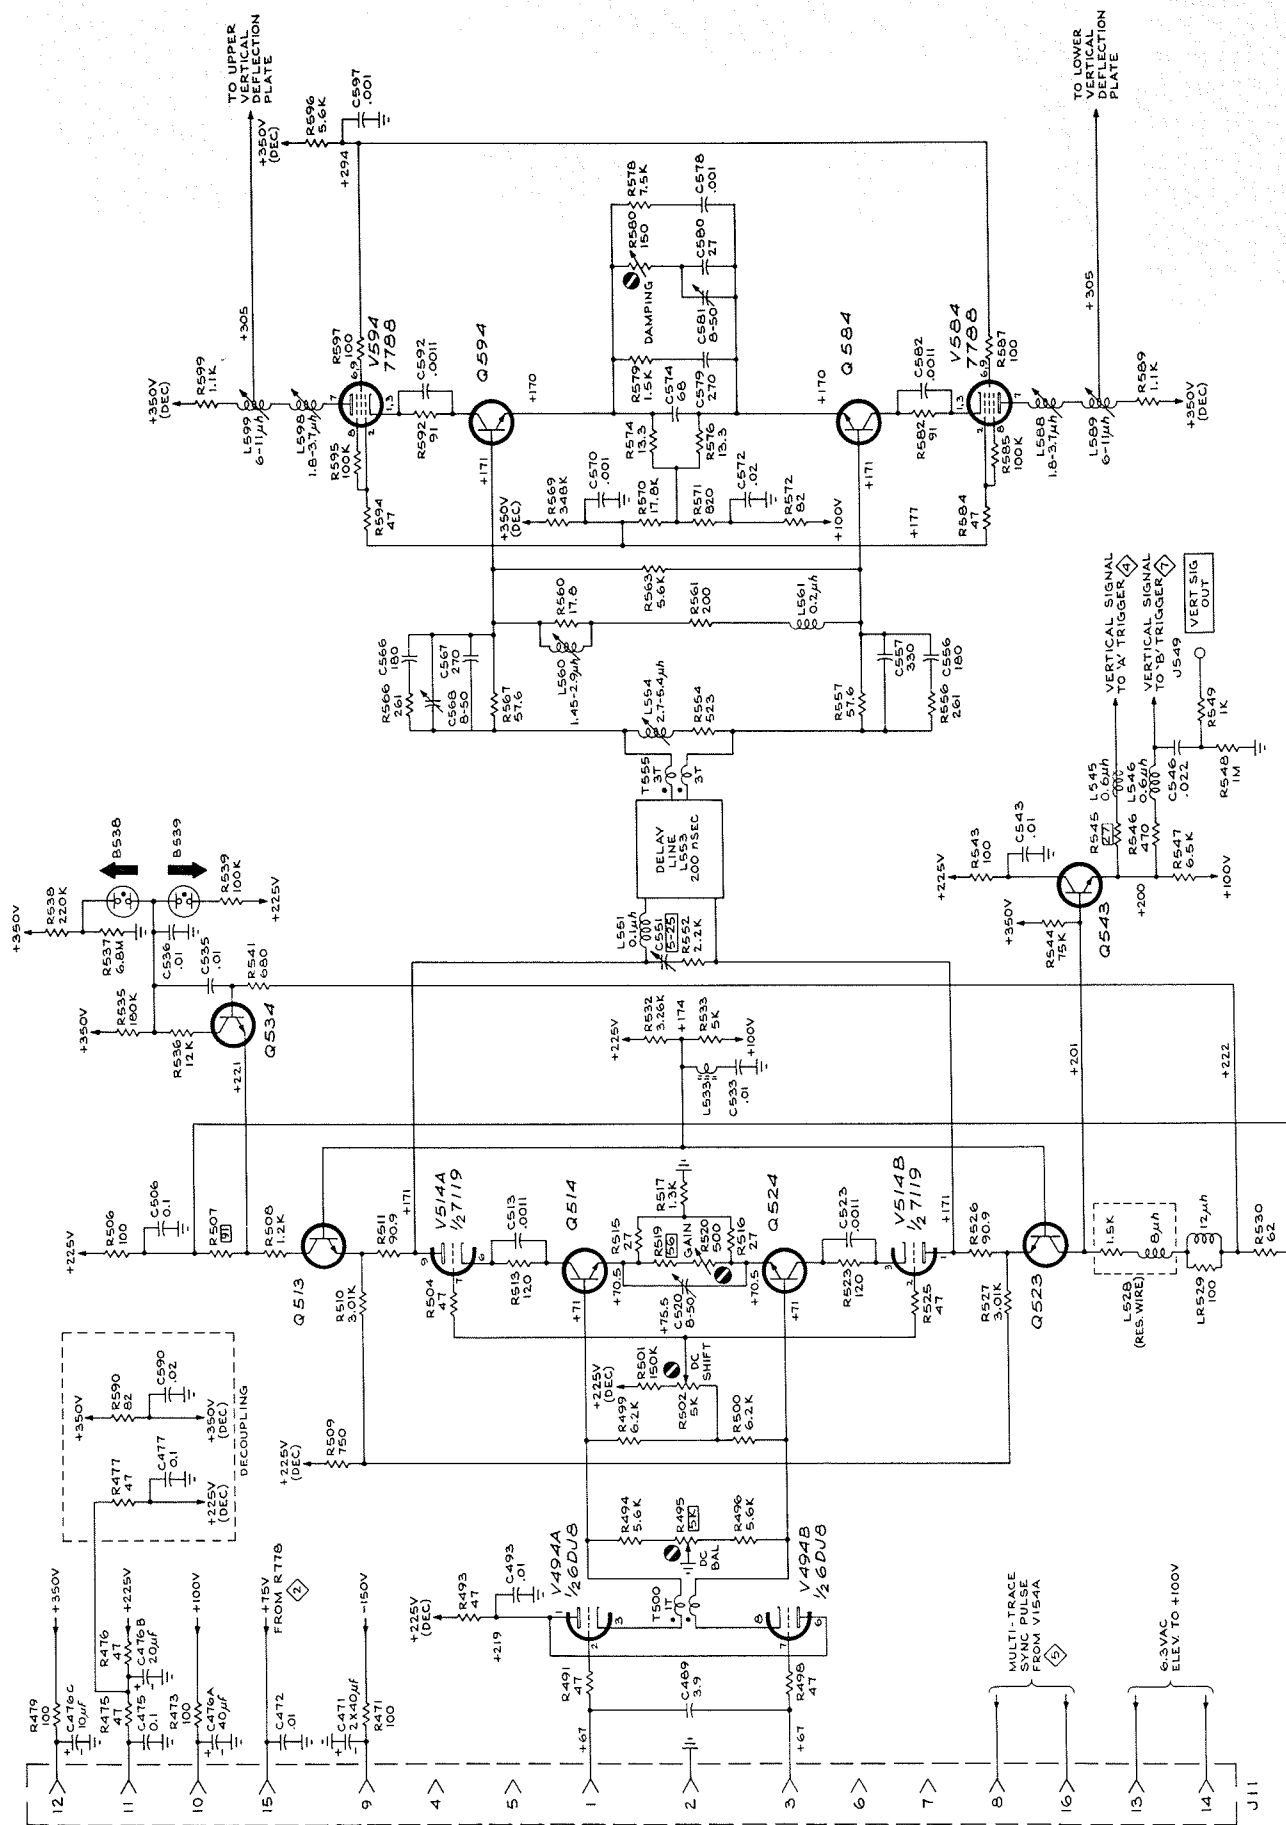

Figure 17.
A quiescent DC voltage of +67 volts is the nominal voltage at the output of the plug-in amplifiers used in the Type 545B oscilloscope. This voltage appears at terminals 1 and 3 of J11 in Figure 17, and thus, at the grids of V494A and V494B, a 6DJ8 dual triode. The input cathode follower (V494 A & B) has a bias of about 4 volts; therefore, both cathodes will be at +71 volts. The base voltage of Q514 and Q524 is then fixed at 71 volts. This sets the emitter voltages of Q514 and Q524 at one junction drop more negative (they are both NPN transistors) than the base. Therefore, the voltage at the emitter of Q514 and Q524 is 70.5 volts. T500 is a small toroidal transformer used for high-frequency common-mode rejection. The DC BALANCE Control, R495, sets the quiescent condition. We mean by this that the trace is centered.
Figure 18. The circuit which will determine the DC emitter currents for either Q514 or Q524. (A)—The actual circuit as shown in Figure 17. (B)—The equivalent DC circuit considering R517 as two resistors through which the individual emitter currents will flow.
We will now analyze the output circuits to the right of the delay line, refer to Figure 17. The first thing we must do is to calculate the voltage at the base of Q594 or Q584. The voltage at the junction of R532 and R533 (174 volts) will set the base voltage of Q513 and Q523. Assuming a junction drop of 0.5 volt the voltage at the emitter of Q513 and Q523 will be 173.5 volts. The current through R511 and R526 is 27 milliamps, hence the voltage drop across these resistors will be